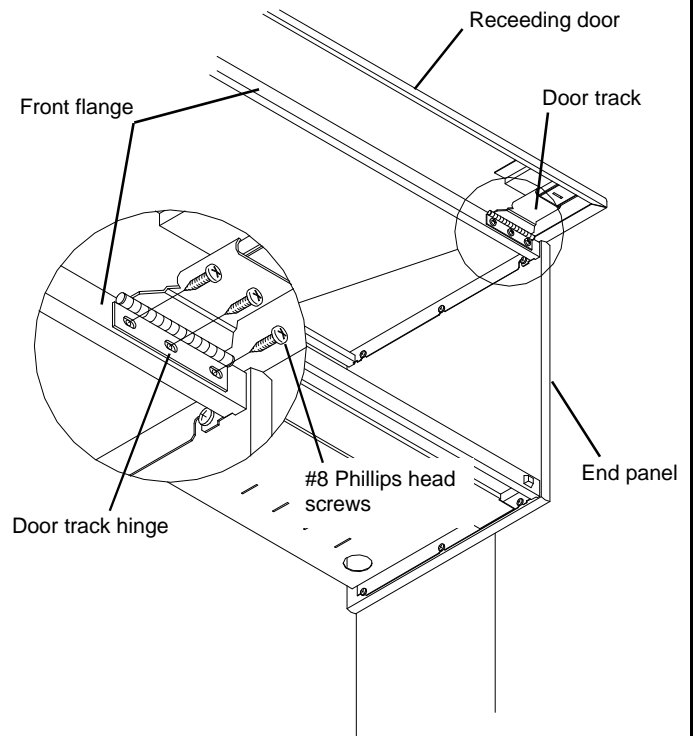

Figure 5
1. Place the **Receding Door** assembly face up on top of the Locking Compartment. See **Figure 5**. Position the two **Door Track** hinges against the front flange of the Top. The Door edges must be aligned with the outer surfaces of the End Panels. Align the slots in the Door Track hinges with the six holes in the front flange of the Top. Install and tighten six #8 Phillips head sheet metal screws into the Door Track hinges to secure them. See **Figure 5**.